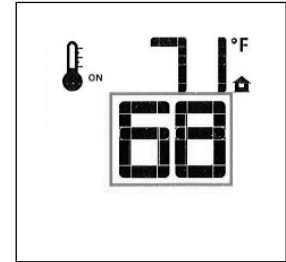

Figure 75. Change Set Temperature.
- To adjust the Set Temperature, press the Up or Down Arrow Keys until the desired Set Temperature is displayed. Fig. 75.